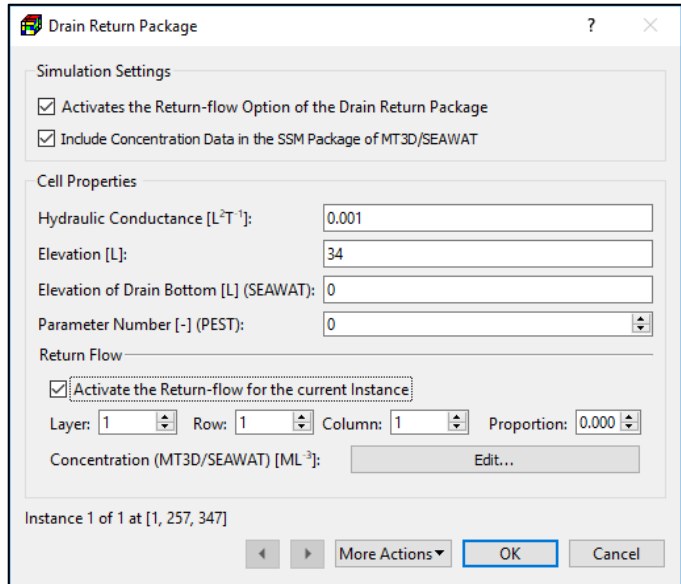

Figure 54. the Drain Return Package dialog box for specifying cell properties
2. **Cell-by-cell input method:** Figure 54 shows the dialog box for specifying cell properties.